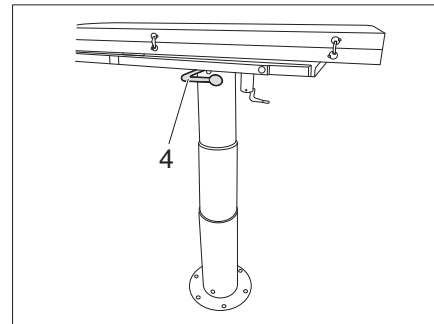

Fig. 116 Folding table, lowerable
- Release the lever (Fig. 116,4) for lowering the table and press the table down.